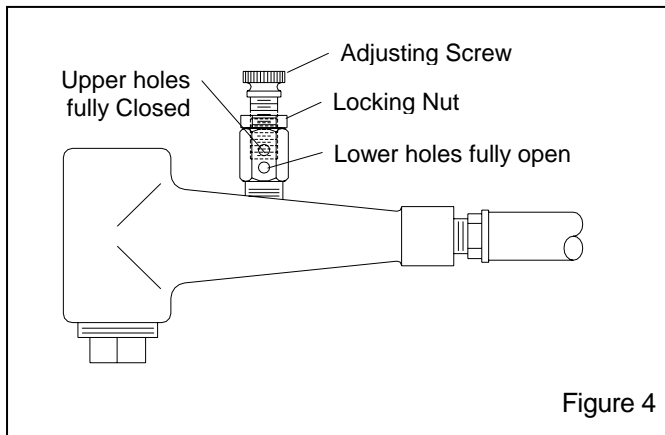

Figure 4
4.3 Media/Air Mixture, Figure 4
4.3.2 If media does not flow smoothly, loosen the locking nut, and adjust the metering screw until the upper holes in the metering stem are closed-off, and the lower holes are fully open. See Figure 4. This adjustment is a starting point.